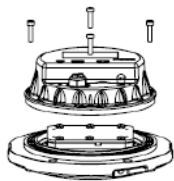
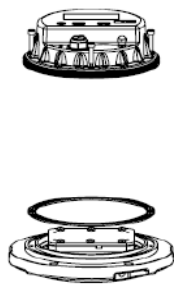

Figure 5-20
Figure 5-21
- Replace the body gasket: Separate the inner cover and upper cover (Figure 5-20) and carefully clean the seal groove. Put the new gasket into the seal groove of the upper cover (pin orientation) and confirm that it is in place (Figure 5-21).